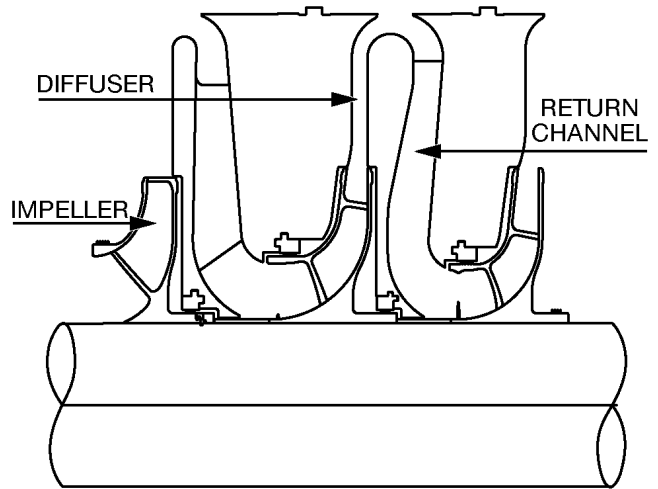

Figure 3. Aerodynamic Parts of a Centrifugal Compressor.
- The basic aerodynamic components of a centrifugal compressor are the impellers, diffusers, and return channels. (Figure 3)